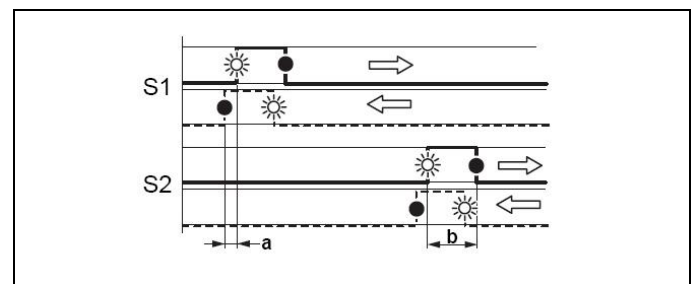

Fig. 8: fundamental signal course
- Proceed in the same way with S2, so that a signal course as per figure 8 will be obtained.